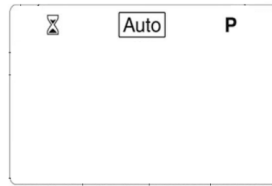

Fig. 17
- 1) *press the navigation button (▶) until the automatic operation symbol **Auto** is selected, as in Fig. 17;*